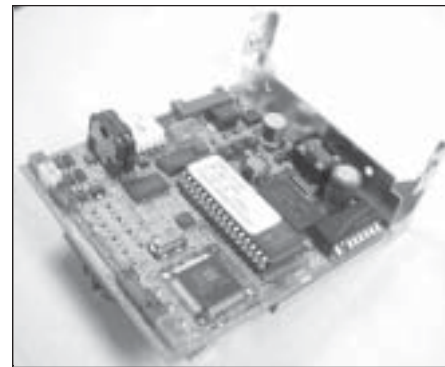

Figure 3
- g. Remove the two (2) screws securing the wire harness to the bracket.
- h. Attach the CPU board to the new bracket (Part No. 052467N) (Figure 3).